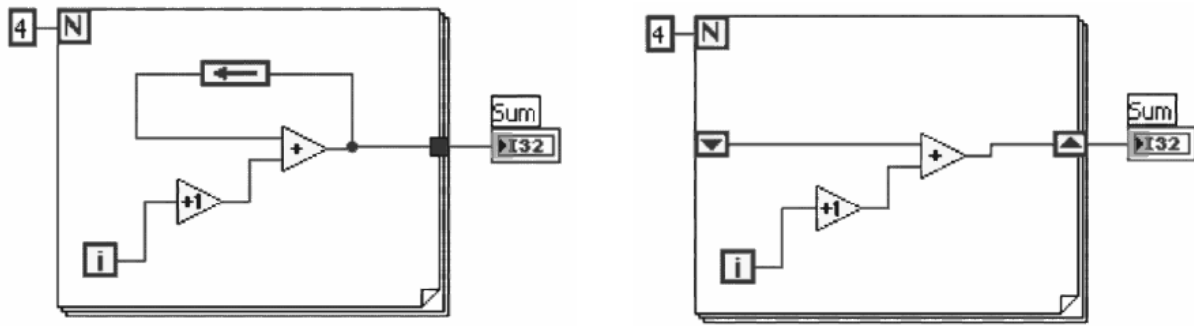

**Figure 4.16** Replace shift registers with tunnels.
- If you replace an output shift register terminal with a tunnel on a For Loop, the wire to any node outside the loop breaks because the For Loop enables auto-indexing by default as shown in Figure 4.16.